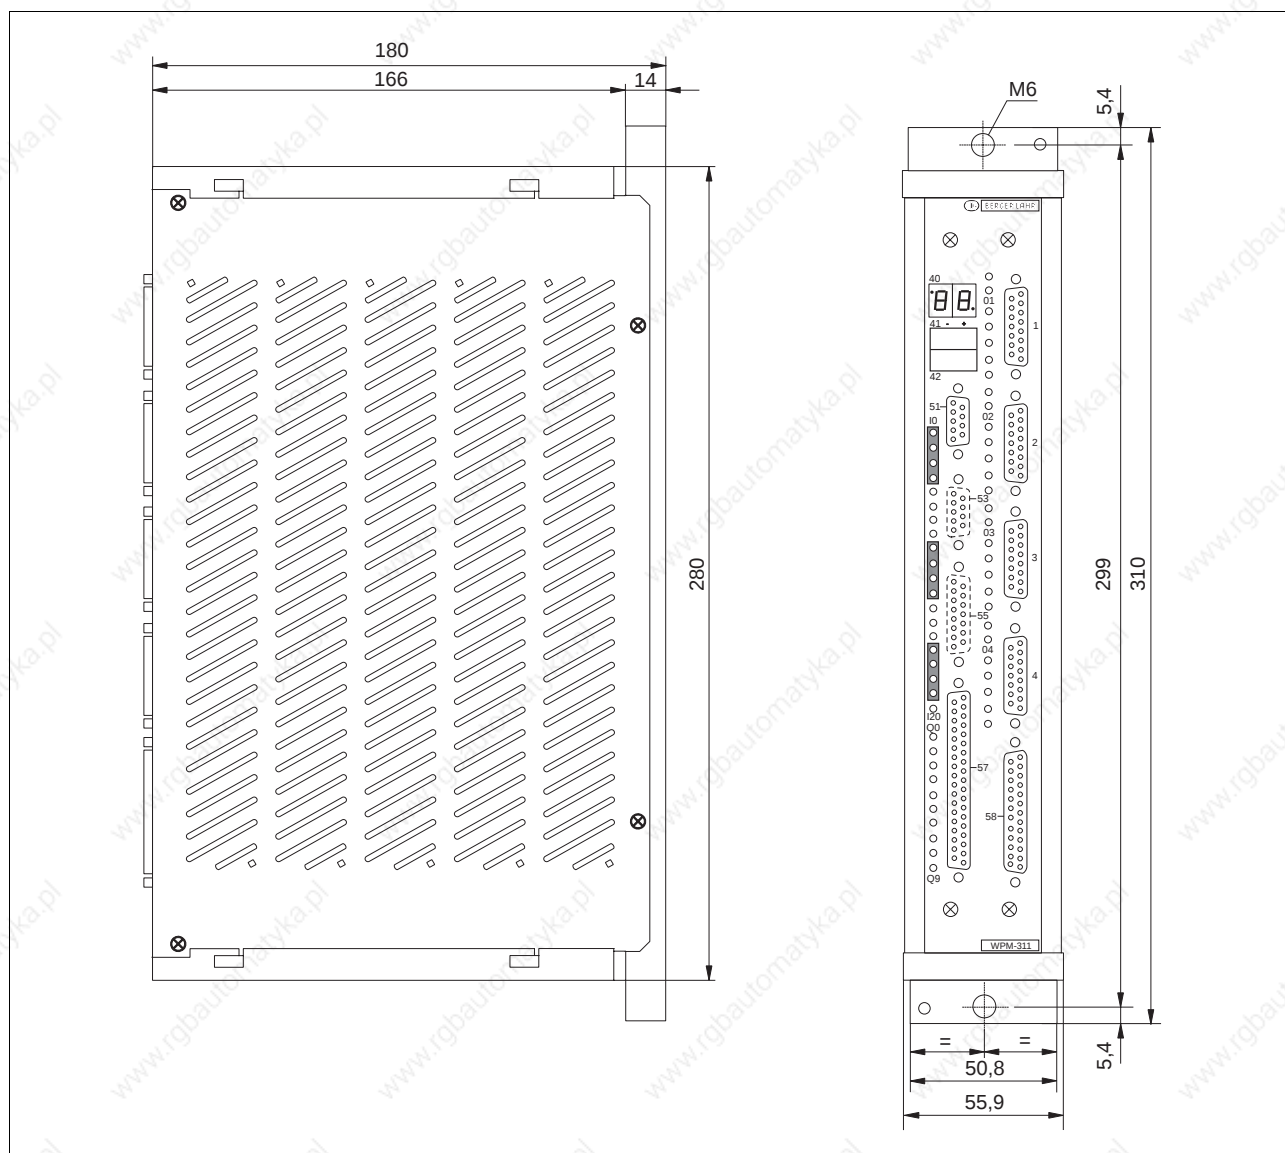

Fig. 1-9 WPM-311 dimensions with 5-phase housing
with 5-phase housing	See fig. 1-9
1. Drill two holes into the mounting panel; see fig. 1-9 for the dimensions.